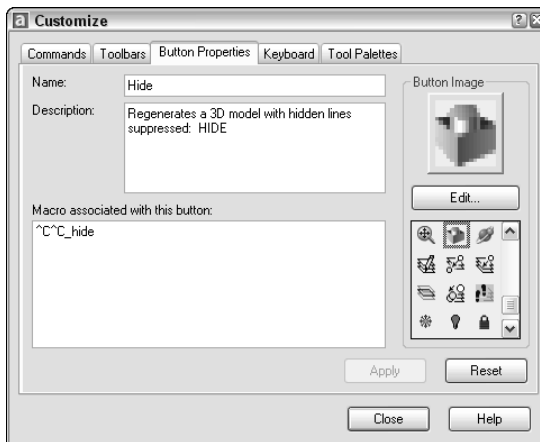

Figure 29-8: The Button Properties tab of the Customize dialog box
3. Click the Properties tab of the Customize dialog box and then click the blank button to display the Button Properties tab of the Customize dialog box, as shown in Figure 29-8.